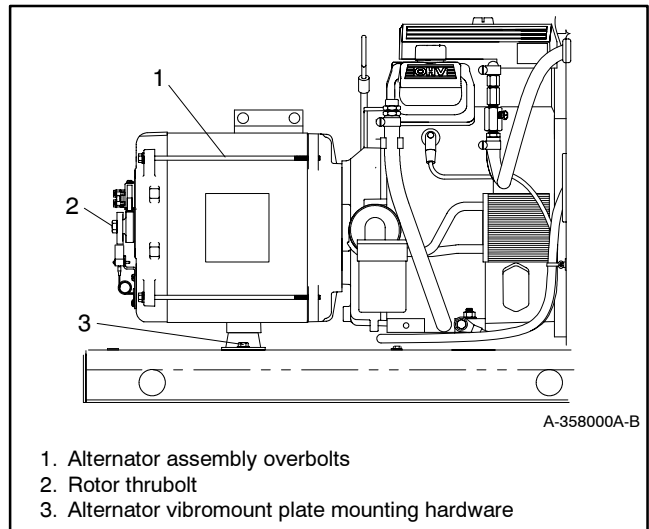

Figure 8-12 Generator Set, Right Side
- b. Reinstall the screws and washers that secure the alternator frame vibromount mounting plate to the generator set skid. See Figure 8-12.
- a. Tighten the rotor thrubolt to 28 ft. lb. (38 Nm). It may be necessary to keep the engine flywheel from turning while torquing the rotor thrubolt. See Figure 8-12.
- b. Tighten the four alternator assembly overbolts to 60 in. lb. (7 Nm). See Figure 8-12.